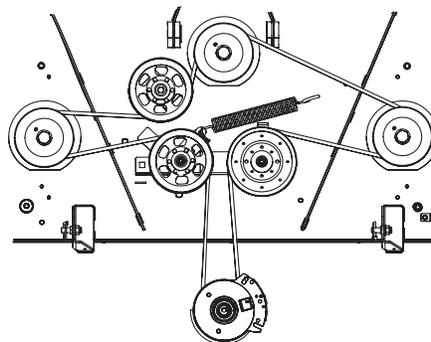

Figure 4-19
- Place the belt onto the idler pulleys removed in Step 3 with the 'V' side facing in. Once in place, reinstall all the hardware and tighten the flange lock nut to secure the assembly. See Figure 4-19.
- Route the belt as shown in Figure 4-19 and then reinstall the deck (refer to Deck Installation).